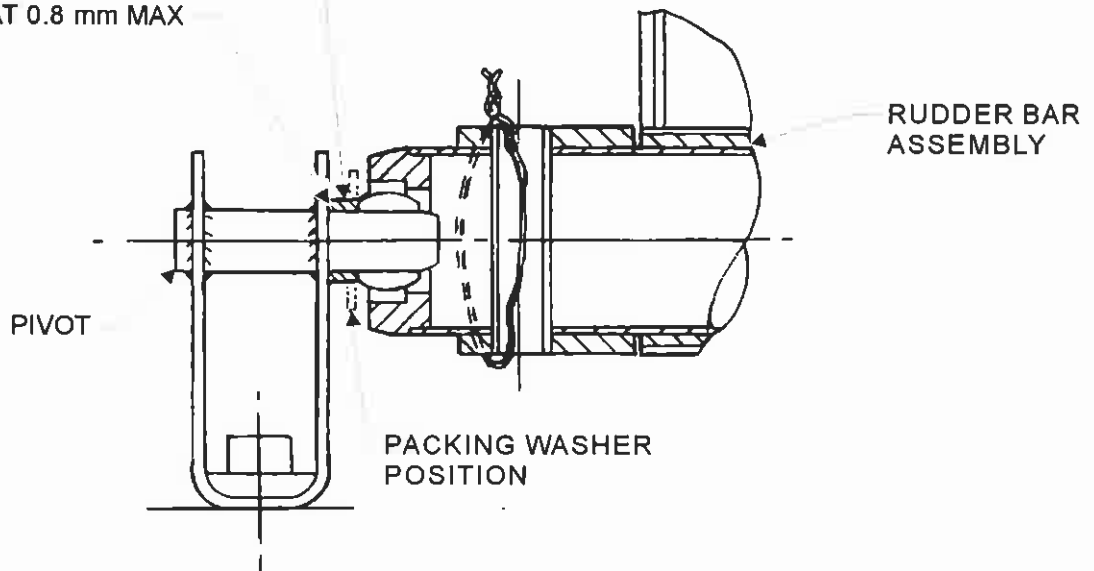

FIG 1
- 3.1 Check rudder bar packing is in accordance with the following, Ref. Fig. 1: